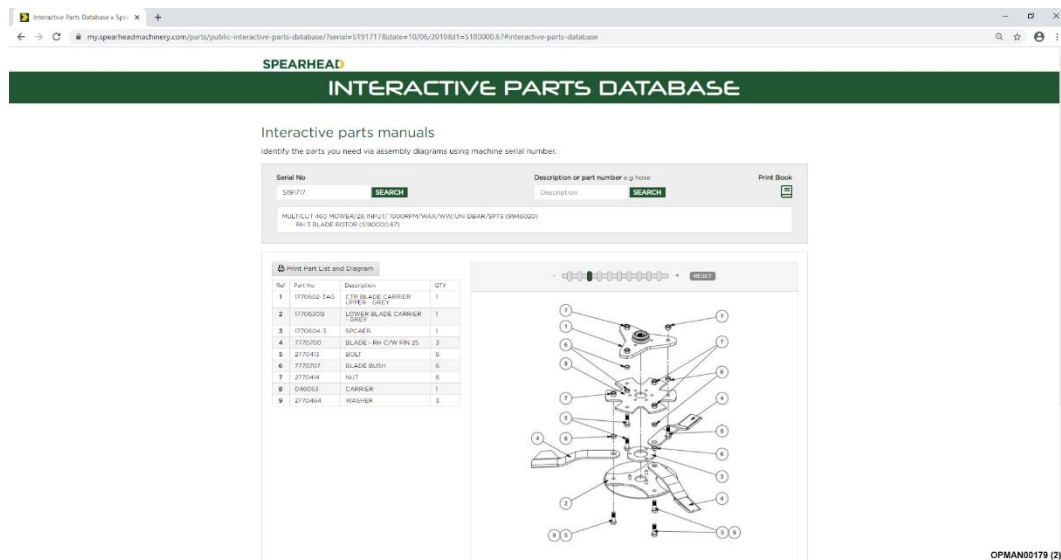

Figure 7.4 – Exploded Parts Breakdown With Bill Of Materials
7.2.1.4 You will finally be presented with a full exploded parts breakdown for that particular assembly, giving part numbers and the quantities required; see Figure 7.4.